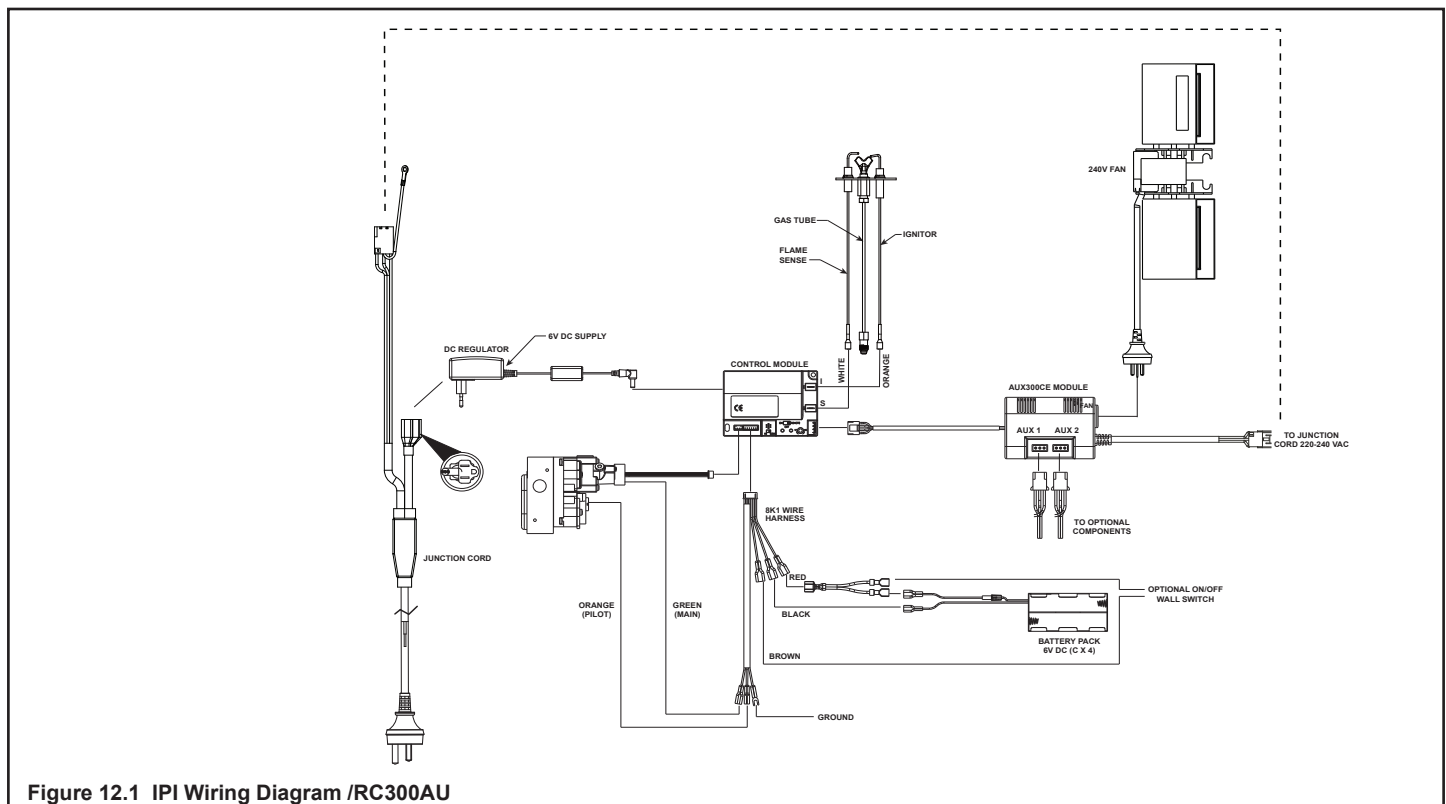

Figure 12.1 IPI Wiring Diagram /RC300AU
- Refer to Figure 12.1, IntelliFire™ Plus Pilot Ignition (IPI) Wiring Diagram.